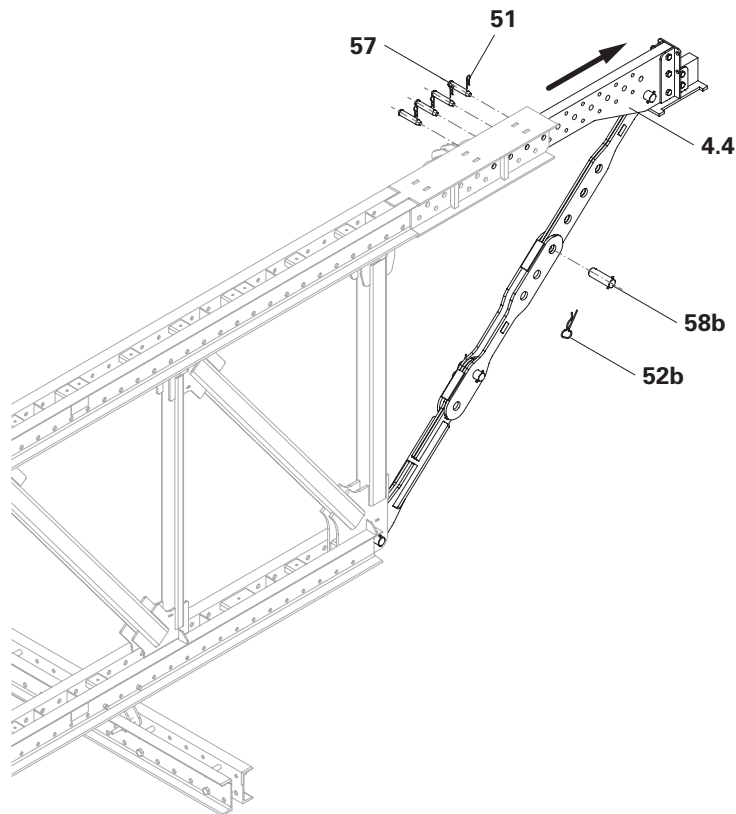

Fig. B1.13
5. Remove cotter pins (**51**) and pull out filler pins (**57**). (Fig. B1.13)
(Fig. B1.13 – B1.14)